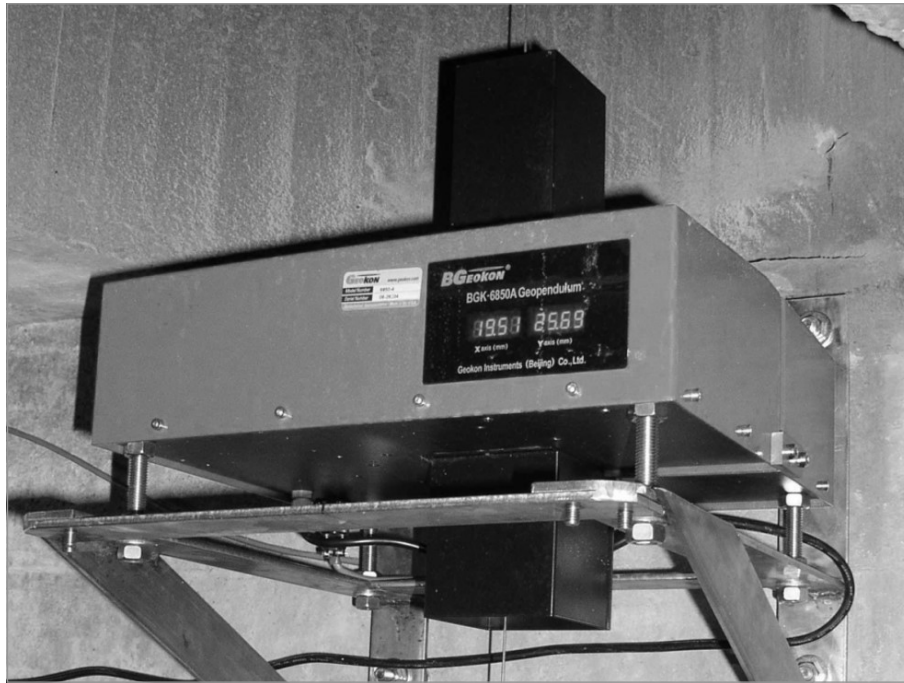

FIGURE 14: Light Shields Installed, Image for Reference Use Only
- Attach the upper and lower light shields to the cabinet as shown in Figure 14 with the supplied screws.